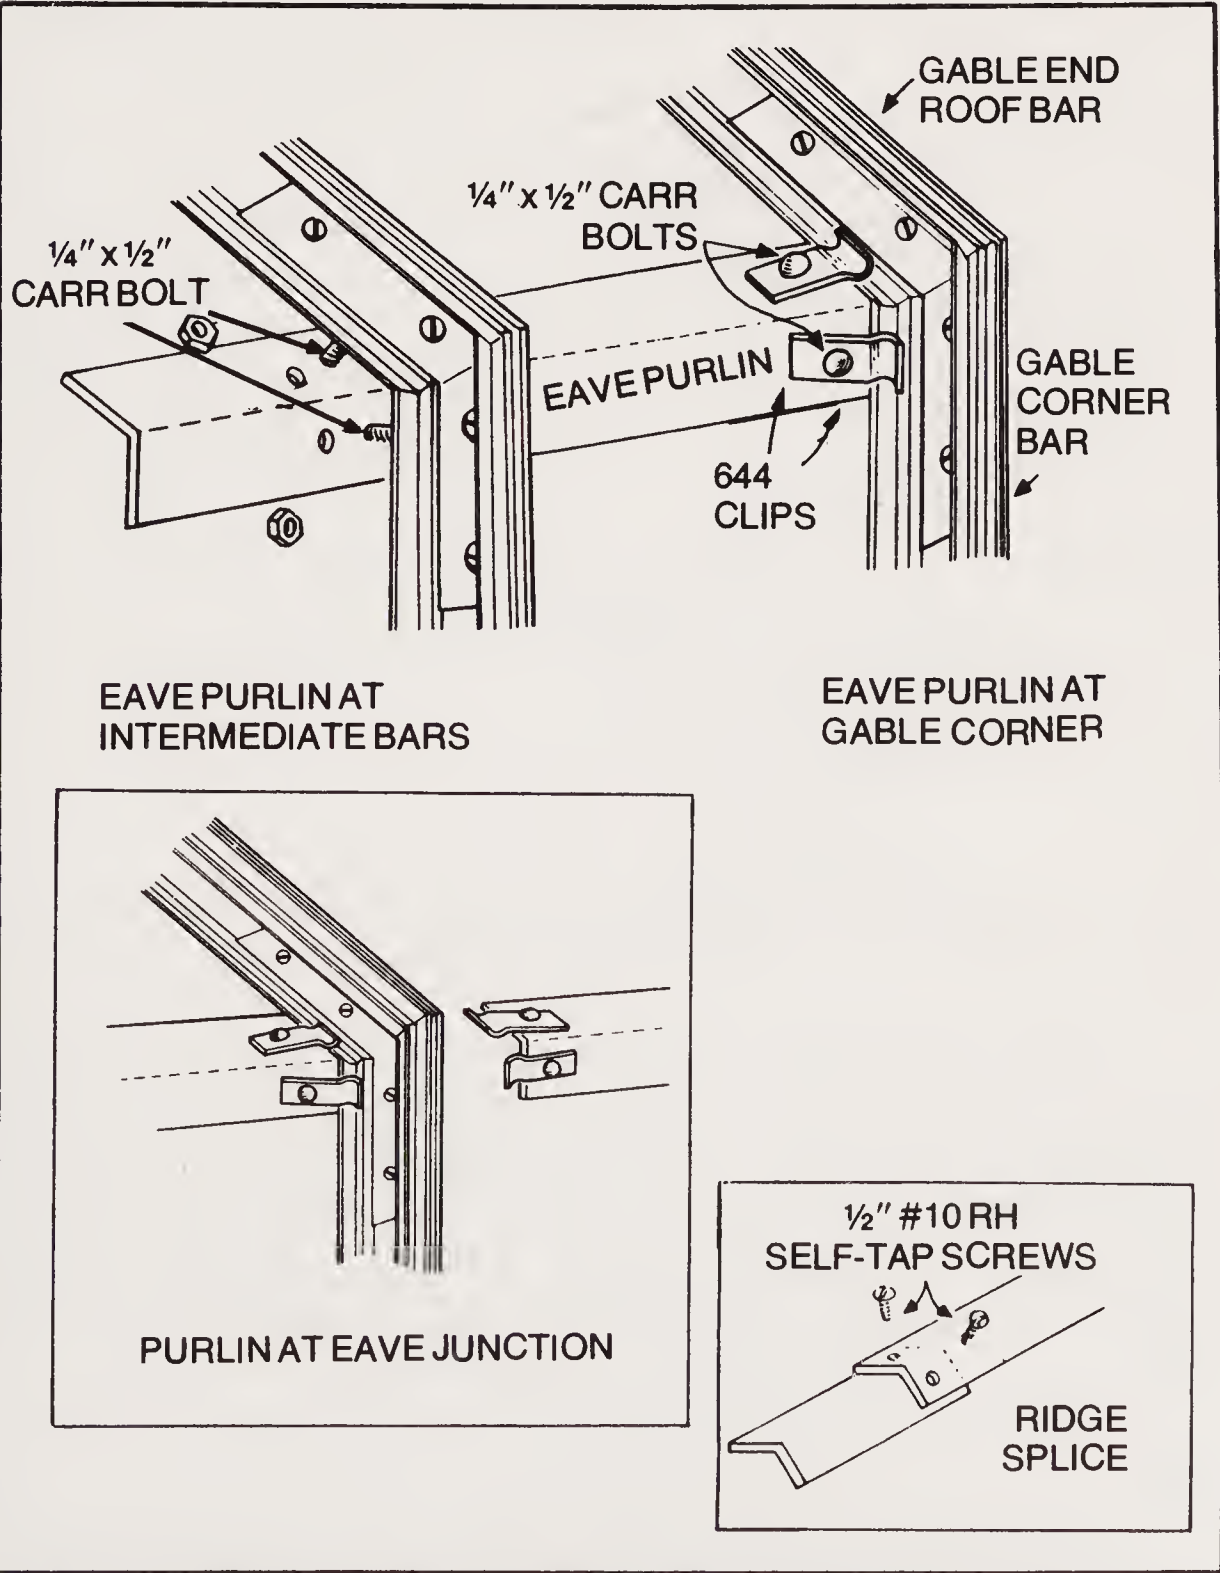

Fig. 2-114. Details eave purlin at gable corners (courtesy of Lord & Burnham Co.).
**All Models.** Install eave purlin using two carriage bolts at intermediate bars; secure them to corner bars with two eave purlin clamps. In 12' and 18' long greenhouses, also use clamps at purlin joints (Fig. 2-114).